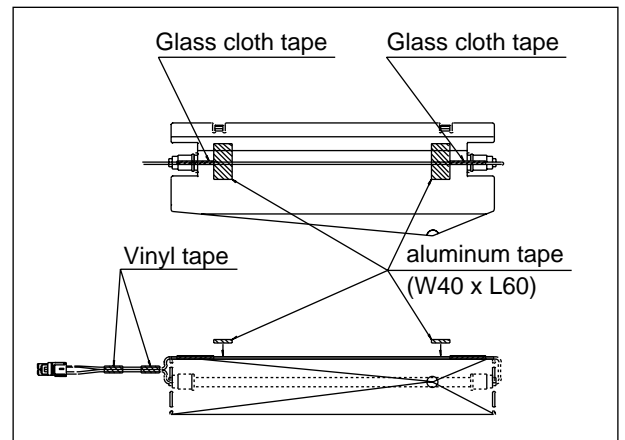

Fig. A-31
7. Stick the longer wire to the Drain support by aluminum tape (2 pieces), and wind vinyl tape (2 pieces) to lead wires of Def. heater ass'y by aluminum tape as shown in Fig. A-31.